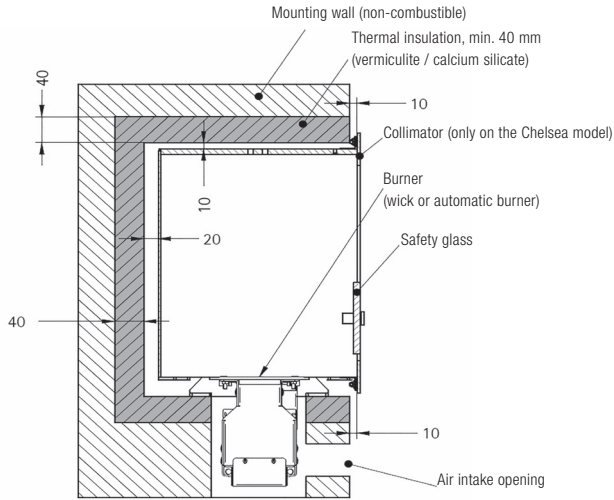

Fig. 1
Please note that the fuel must not be topped up when the equipment is hot or in burning mode. Refilling must NOT take place via the burner channel but instead ONLY via the filler aperture (see Fig. 1). We advise you to put out the ebios-fire by running it until the fuel tank runs dry. When not in operation, the cover plate must always be over the burner.
- There must be an air gap of 10 mm around the body and between the panel and mounting wall. An air gap of 20 mm must be provided to the rear (see the installation diagram fig. 1).
- Only ever fill the burner through the filler aperture and never via the burner channel (see Fig. 1)!